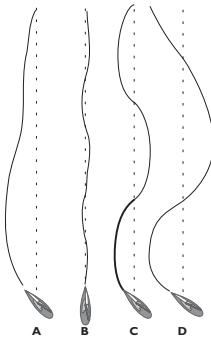

Fig 4.4 - Effects of Gain setting
Fig 4.4 shows the effect of setting the Gain too low (A) – the vessel takes a long time to return to the correct heading.